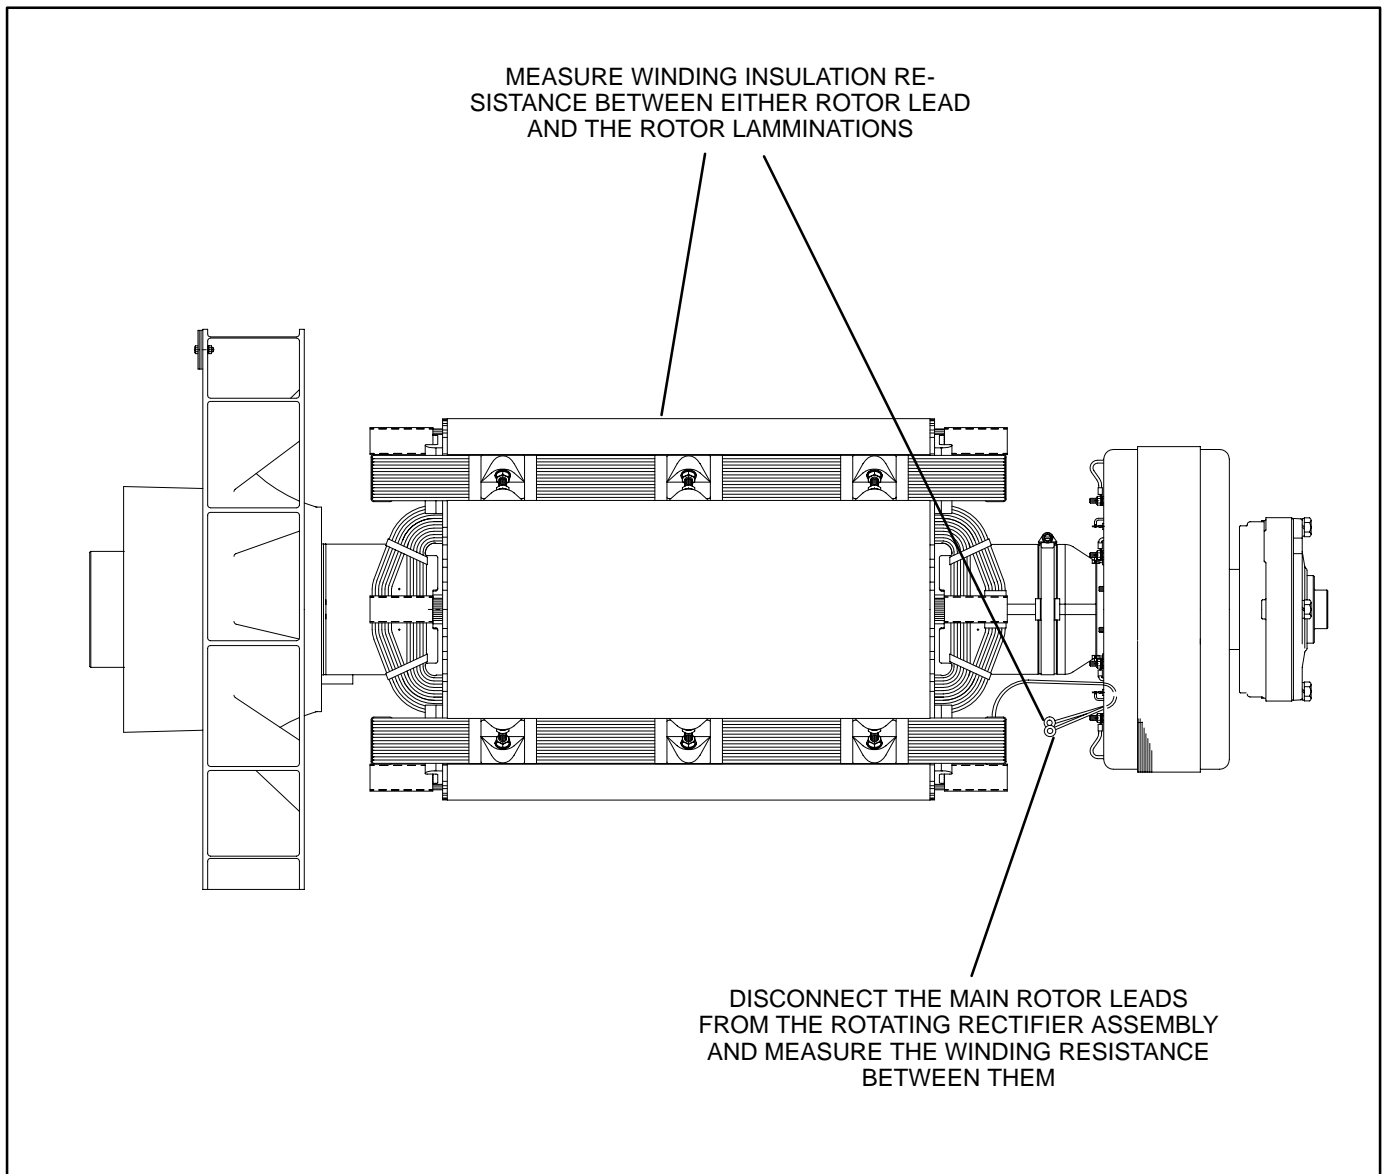

FIGURE 6-5. TESTING THE MAIN ROTOR
**Testing Winding Resistance:** Disconnect the two leads of the main rotor from the terminals on the rotating rectifier assembly. See Figure 6-5. Measure electrical resistance between the two leads with a Wheatstone bridge or digital ohmmeter. Replace the rotor if the resistance is not as specified in Table 6-2. Connect the rotor leads and torque the terminals to 23 in-lbs (3.3 N-m) when reassembling.